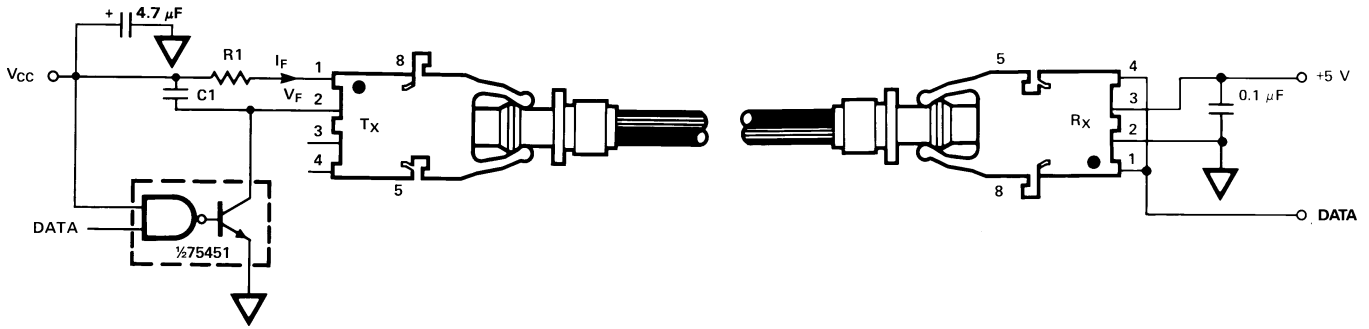

Figure 11. Required 1 Mb/s Interface Circuit.
The HFBR-25X2 receiver can not be overdriven when using the required interface circuit shown in Figure 11.
- The LED drive circuit of Figure 11 is required for 1 MBd operation of the HFBR-25X2/25X4.